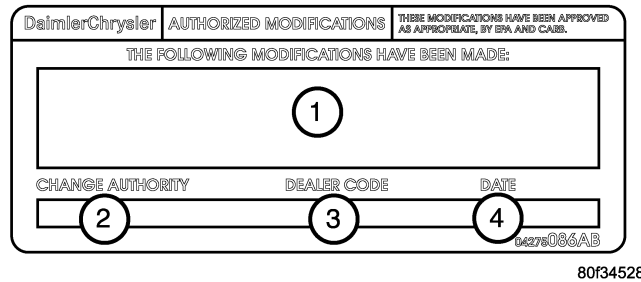

Fig. 1 AUTHORIZED MODIFICATION LABEL
14. Type the necessary information on the "Authorized Modification Label" p/n 04275086AB and attach near the VECI label (Fig. 1).